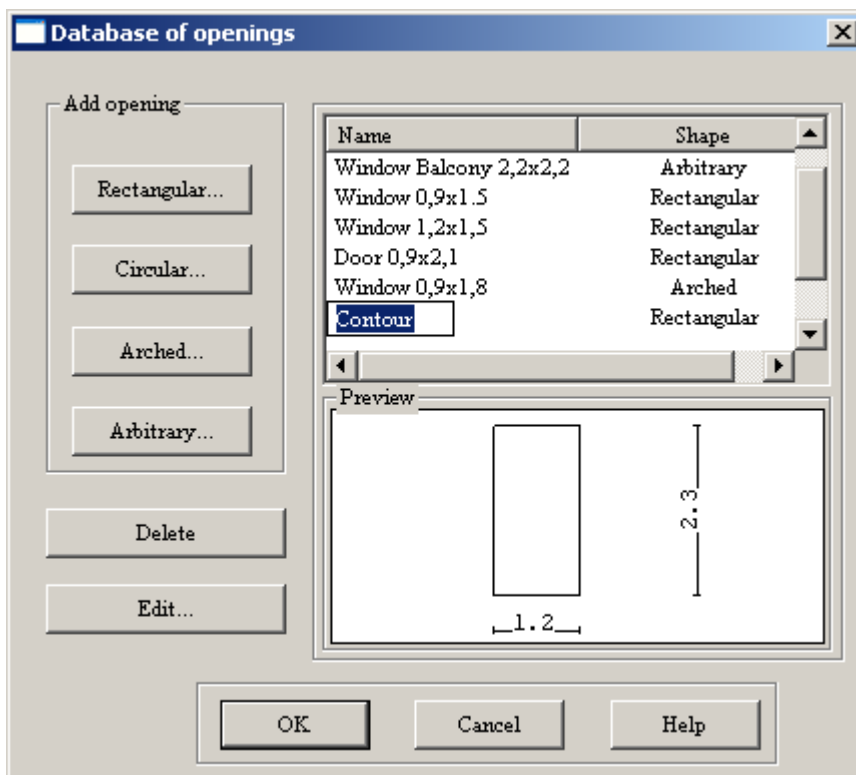

Figure 1.6.5 Database of openings dialog box
- ⇒ In the **Database of openings** dialog box (see Figure1.6.5), do the following: